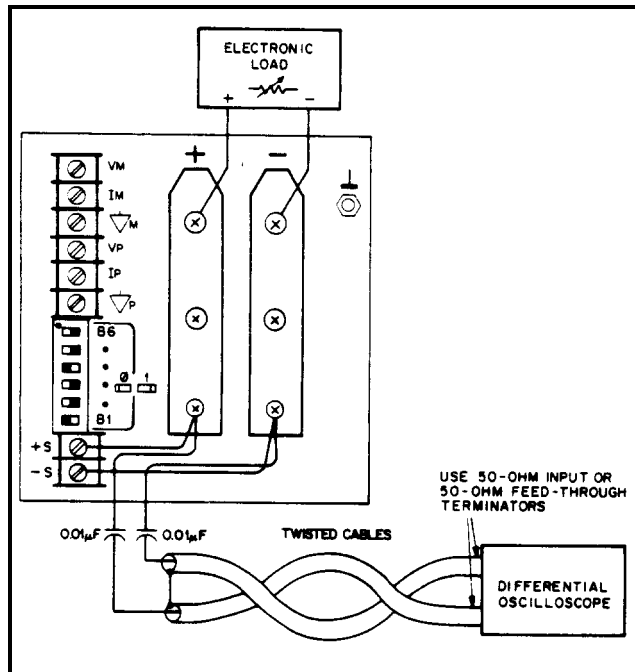

Figure 2-7. Peak-To-Peak Measurement Test Setup, CV PARD Test
Peak Measurement Procedure. Figure 2-7 shows the interconnections of equipment to measure PARD in V_{pp} . The equipment grounding and power connection instructions of Paragraph 2-36 apply to this setup also. Connect the oscilloscope to the + S and - S terminals through $0.01\mu\text{F}$ blocking capacitors to protect the oscilloscope's input from the unit's output voltage. To reduce common-mode noise pickup, set up the oscilloscope for a differential, two-channel voltage measurement. To reduce normal-mode noise pickup, use matched-length, 1 meter or shorter, 50Ω coaxial cables with shields connected to the oscilloscope case and to each other at the other ends. Proceed as follows:
- Connect the test equipment as shown in Figure 2-7. Operate the load in constant resistance mode (Amps/Volt) and set resistance to maximum.